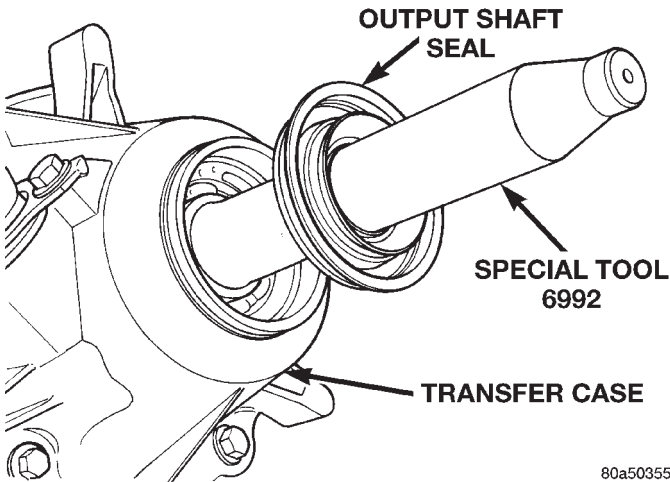

Fig. 77 Output Shaft Seal and Protector
(3) Install rear bearing I.D. retaining ring and spacer on output shaft.
(4) Apply liberal quantity of petroleum jelly to new rear seal and to output shaft. Petroleum jelly is needed to protect seal lips during installation.
(5) Slide seal onto Seal Protector 6992 (Fig. 77). Slide seal protector and seal onto output shaft.